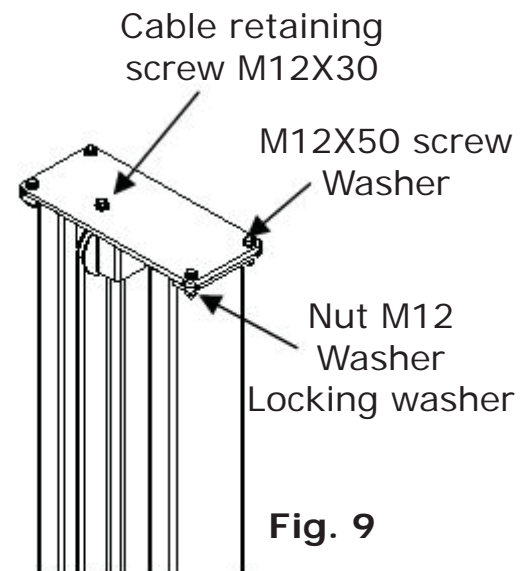

Fig. 9
- Install the top plate onto the column as shown in the figure 9;